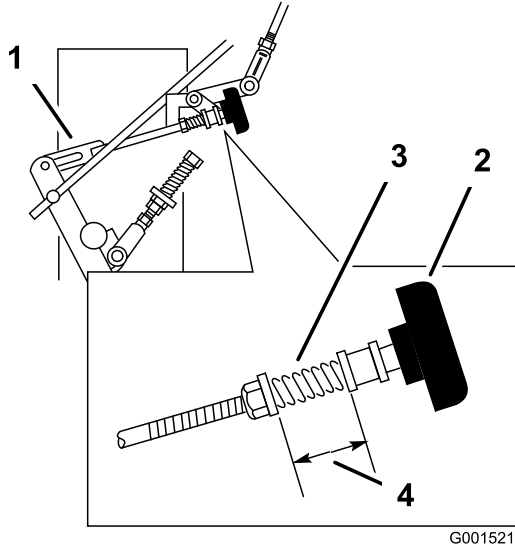

Figure 41
- Adjust the right side linkage by turning the quick track knob counterclockwise until the tire begins to rotate forward (Figure 41).
- Turn the knob clockwise 1/4 of a turn at a time. Then move the speed control forward and back to neutral. Repeat this until right wheel stops rotating forward (Figure 41).
6. The spring that keeps tension on the knob should normally not need adjustment. However if an adjustment is needed, adjust the length of spring to 1 inch (26 mm) between the washers (Figure 41).
7. Adjust spring length by turning nut at front of spring (Figure 41).